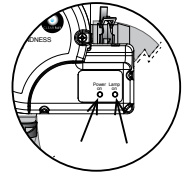

Figure 14.5g
- Reconnect the UV bulb socket (6) to the power cord socket (4) make sure you use the latex glove provided when handling the UV bulb.
- Slide the new UV bulb (7) back inside the quartz tube.
- Reinstall the black bulb boot (5) back over the quartz seal compression nut (9).
- Reinstall the enclosure cover (2) and secure with the screws.
- Once power is activated you can check the ballast, Figure 14.5g, to see if the CLEARRAY System is functioning. The power on (red) light indicates that the CLEARRAY System is being provided power and should always be on. The lamp on (green) light indicates that UV bulb is activated.